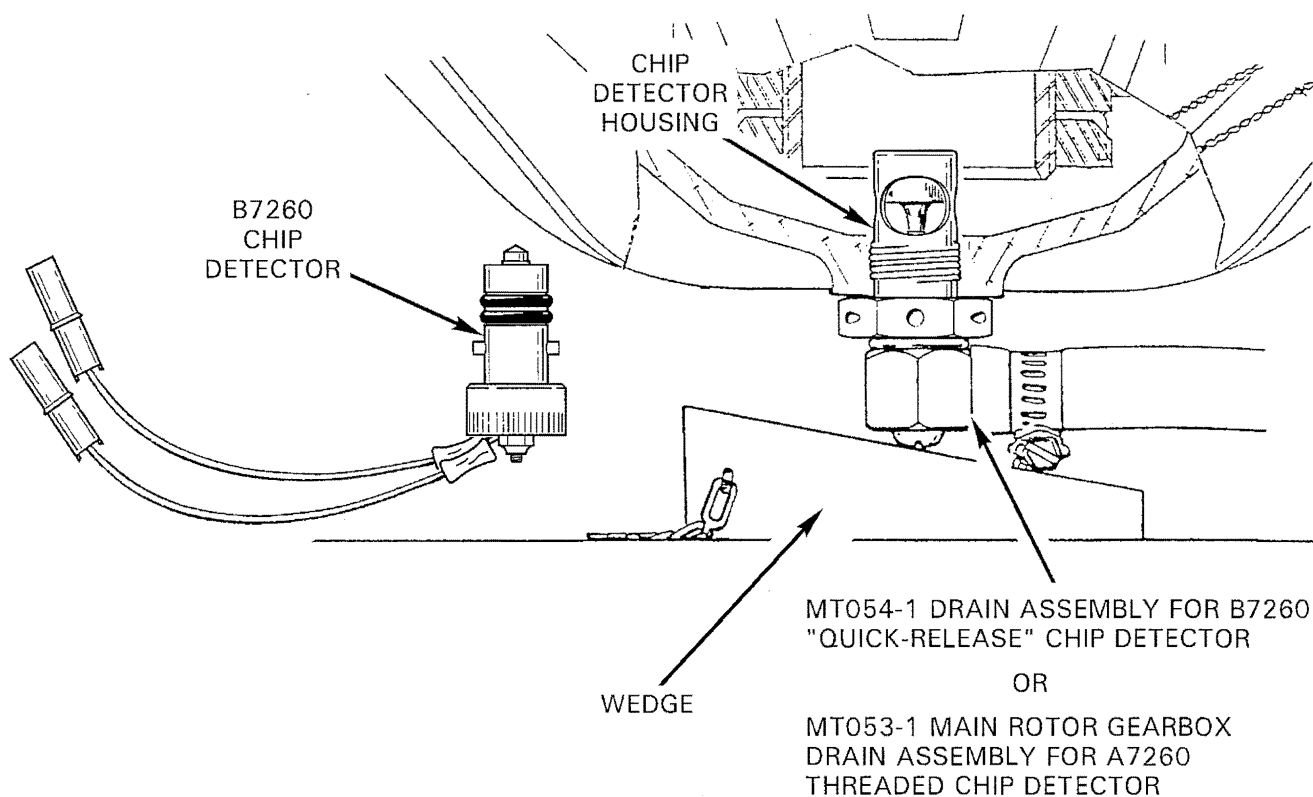

FIGURE 1-2 DRAINING MAIN ROTOR GEARBOX
4. Drain oil by installing main rotor gearbox drain assembly in chip detector housing with drain hose overboard into a suitable container. Slide wedge under drain assembly to open valve (see Figure 1-2).